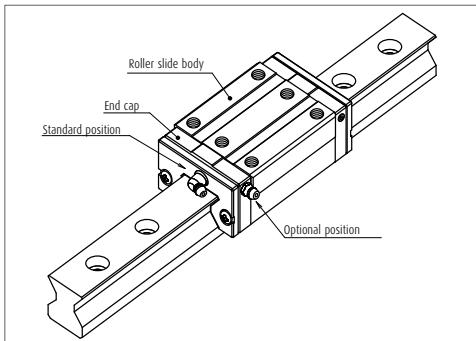

Fig. 12 Mounting position of lubrication accessories
(1) Mounting position of lubrication accessories
- The standard position of grease fittings and tube fittings is the end face of roller slide. We can mount them on a side of end cap for an option. (Fig. 12) Please consult NSK for installation of grease or tube fittings to the roller slide body or the side of end cap.